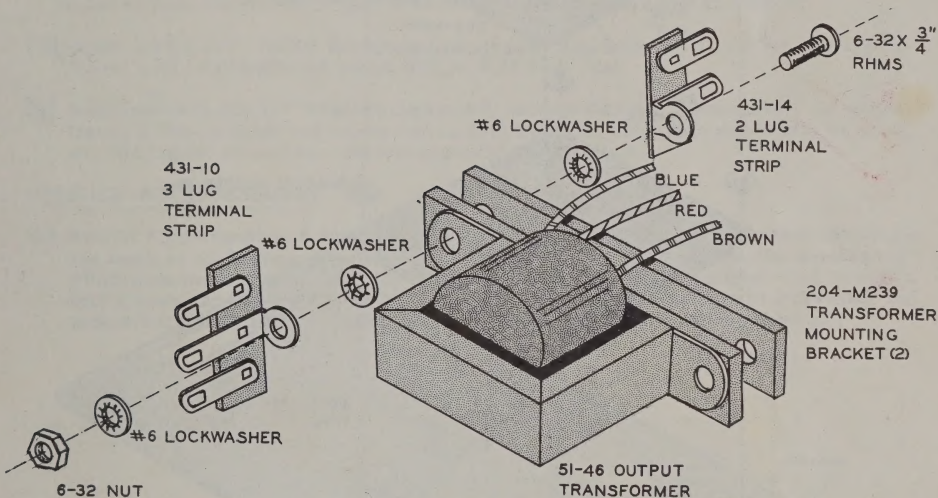

Figure 4
- (X) See Figure 4 and assemble the associated parts; insert a 6-32 x 3/4" RHMS through a 2-lug terminal strip, a #6 lockwasher, the two mounting brackets, the mounting foot of the transformer (3 leads facing up), a #6 lockwasher, a 3-lug terminal strip, another #6 lockwasher, and finally, a 6-32 nut which is screwed on only enough to hold these parts together for the time being.